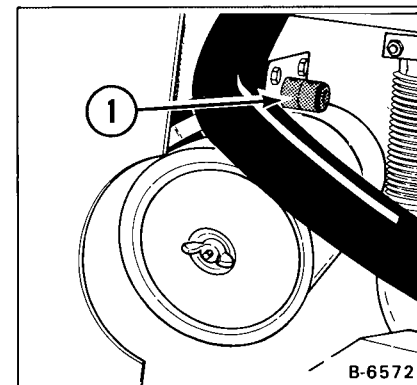

Fig. 1-10 Condition Indicator
**NOTE:** Before changing the air cleaner, push the button on the condition indicator (Fig. 1-10, Item 1), start the engine and if the red ring still shows, do the following service procedure.
The large air cleaner element (outer) must be replaced when the red ring shows in the window of the condition indicator (Fig. 1-10, Item 1). DO NOT remove the inner filter. Service the air cleaner as follows:
(1) Remove the wing nut (Fig. 1-10, Item 2) and remove the air cleaner cover. Remove the filter element (Fig. 1-11, Item 1).